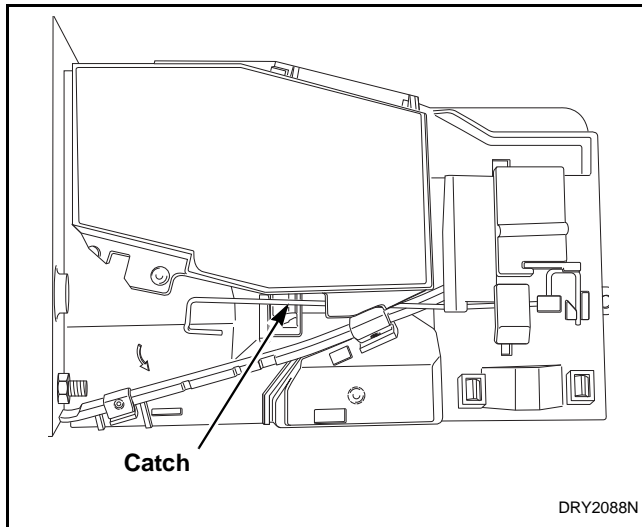

Figure 68
- Move spring downward until cover catch is free. Refer to Figure 68.